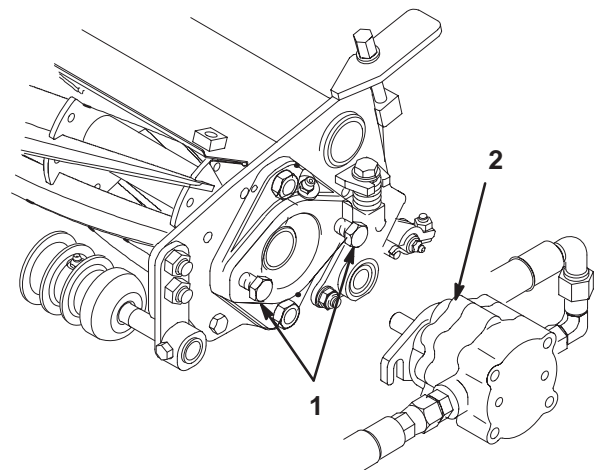

**Figure 13**
4. Thread a ball stud into each end of the cutting unit front roller (Fig. 13).
- 6. Slide the sleeve back on each ball joint receiver and hook the receiver onto the cutting unit ball stud (Fig. 13).
**Note:** The pull link assemblies are preset at the factory. If they ever need to be disassembled, reassemble them to the dimensions shown in Figure 13.